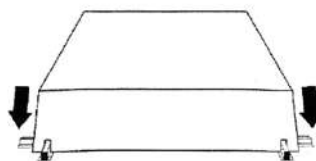

Fig. 3
- Ensure the cracks on the edge of the cover fit onto the load-bearing profiles of the false ceiling (Fig. 3) and that the cover rests flatly on the panels adjacent to the square where the lighting fixture will be installed (Fig. 4).